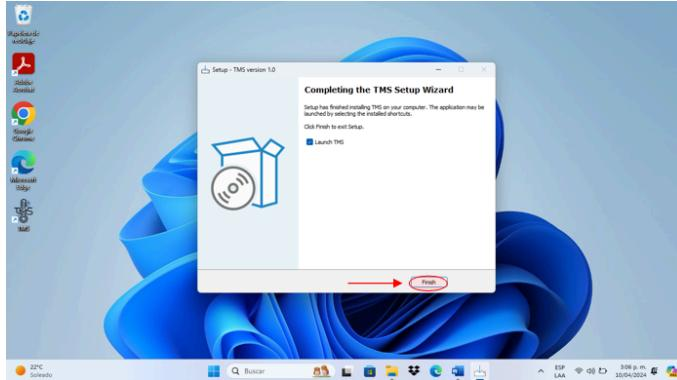

Figure 8. Concluding the installation process.
- VII. Finally, as soon as the download is complete, select “*Launch TMS*” and then click the button “*Finish*” to run the application as shown in *Figure 8*.